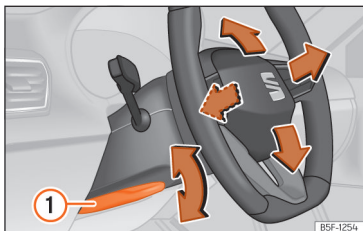

Fig. 68 Lever in the lower left side of the steering column.
- Pull lever »» Fig. 68 ① down, move the steering wheel to the desired position and lift the lever back up until it locks.
- After adjusting the steering column, push lever »» Fig. 68 ① firmly upwards so that the steering wheel does not accidentally change position while driving.